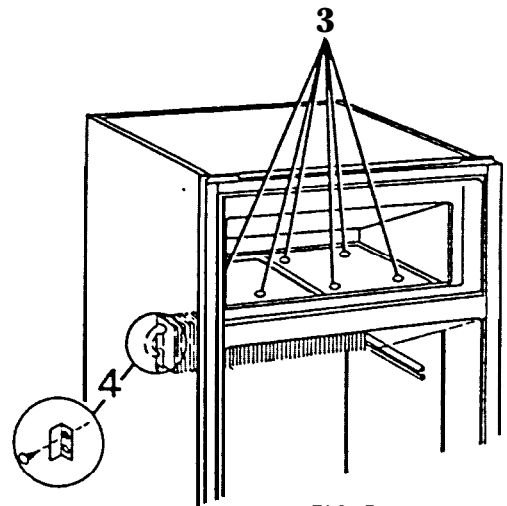

FIG. F2
7. Reinstall capillary tube into proper position (FIG. F2).